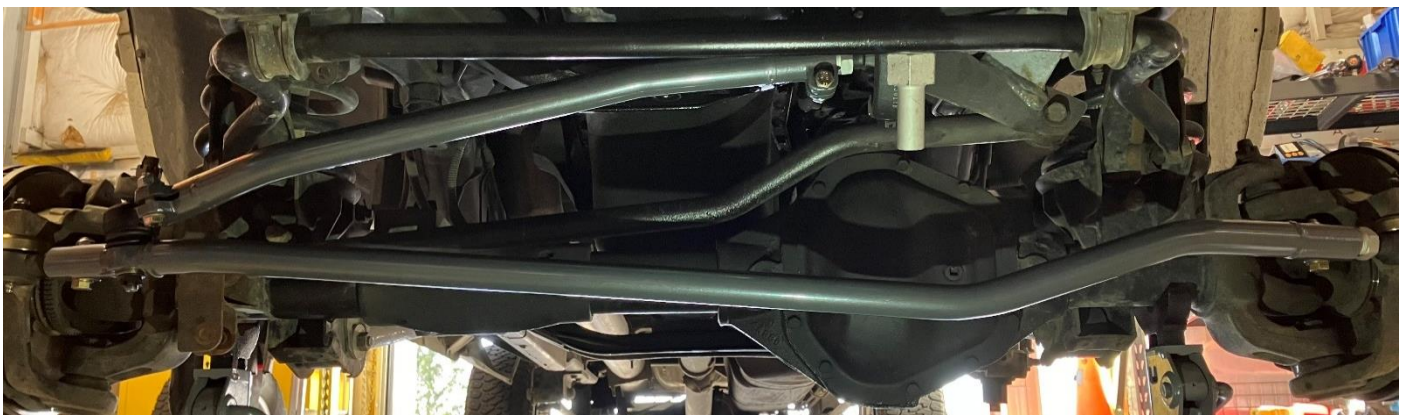

Figure 19. Installed Tie Rod and Drag Link
29. Ensure drag link and tie rod are installed correctly by referencing **Figure 19**.